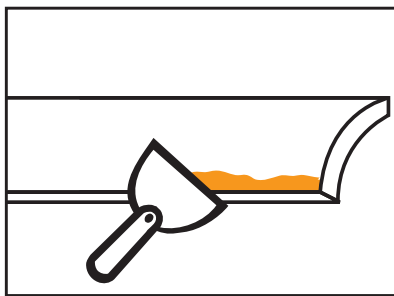

FIGURE 12 Butter Up
- Spread a 10mm continuous bead of cement along both back edges and the mitred end of the cornice [Figure 12]